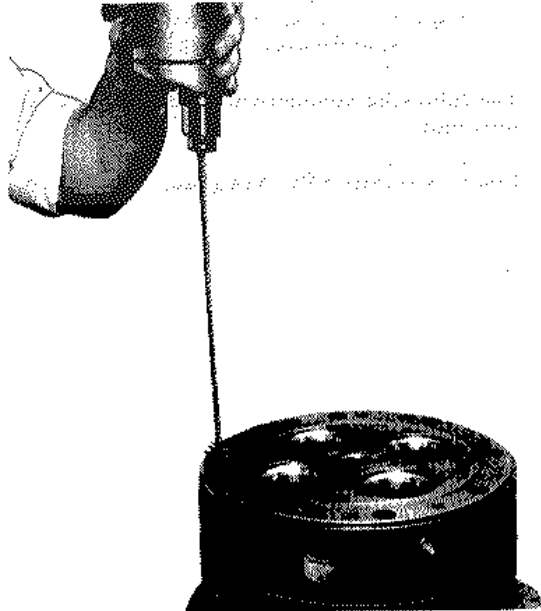

Fig.2-4 - Cleaning Stud Holes
2. Remove loose material from stud holes using stud hole cleaner and 115 volt drill, Fig. 2-4.